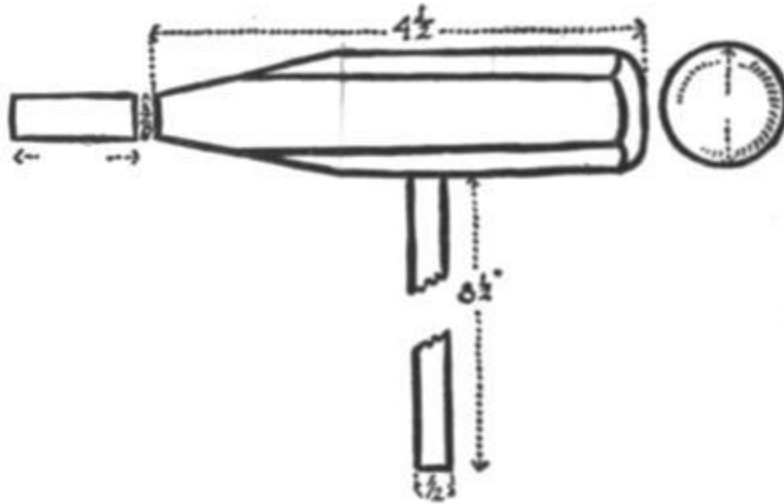

FIG. 5.
*The Forming Mallet.*—The special forming mallet designed by the author will have to be made. It was designed especially for work with the tin cans. It is very simple and easily made of maple by any carpenter. One end is a slightly rounded dome shape and the other is in the form of a blunt wedge. The dimensions and general shape of the mallet are shown in Fig. 5. The handle may be made of a piece of  $\frac{1}{2}$ -inch dowel rod. A substitute for this mallet may be made of a piece of broom handle the end of which is already rounded to about the proper curve. Measure off  $4\frac{1}{2}$  inches from the rounded end of the broom handle and saw it off. Bore a  $\frac{1}{2}$ -inch hole through the center of the piece to fit the piece of dowel rod used for the handle. Whittle down the end to a blunt wedge shape leaving it about  $\frac{3}{8}$  inch thick at the end. The rounded end may be left as it is.